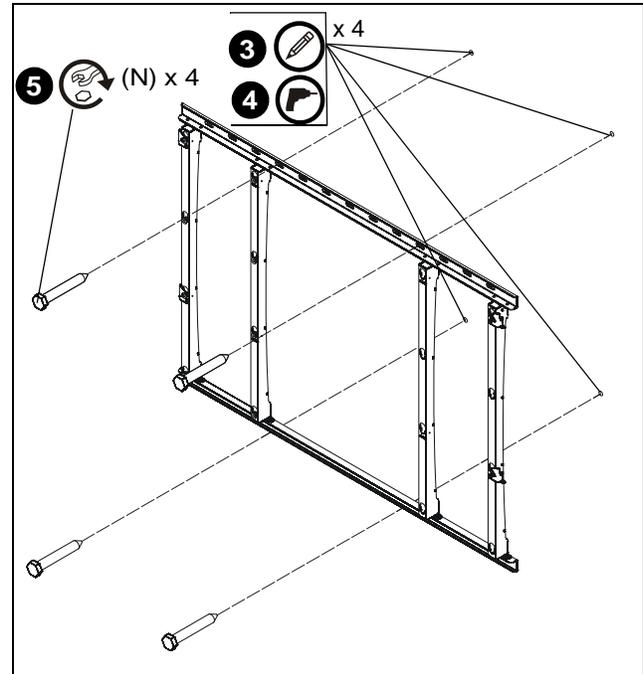

Figure 5
3. Using assembled mount as a template, mark four holes on wall. Use a level to make sure of an even mount. (See Figure 5)
4. Drill four $\frac{1}{4}$ " holes $2 \frac{1}{2}$ " deep in wall at marked locations. (See Figure 5)
5. Install four $\frac{3}{8}$ x $2 \frac{1}{2}$ " hex head lag screws (N) through holes on mount and into four drilled holes on wall. (See Figure 5)